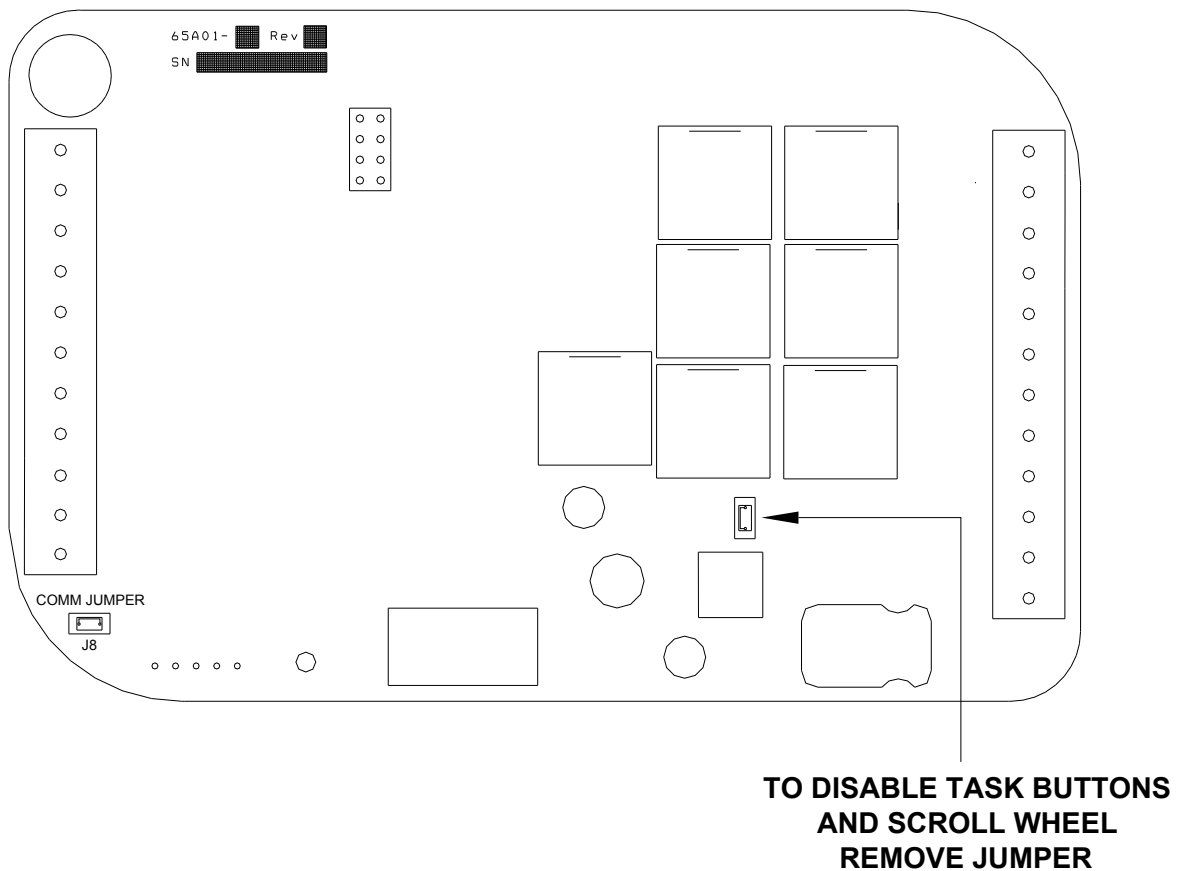

Figure 12 – Local Control Jumper
2. Remove the local control jumper - *See Figure 12.*